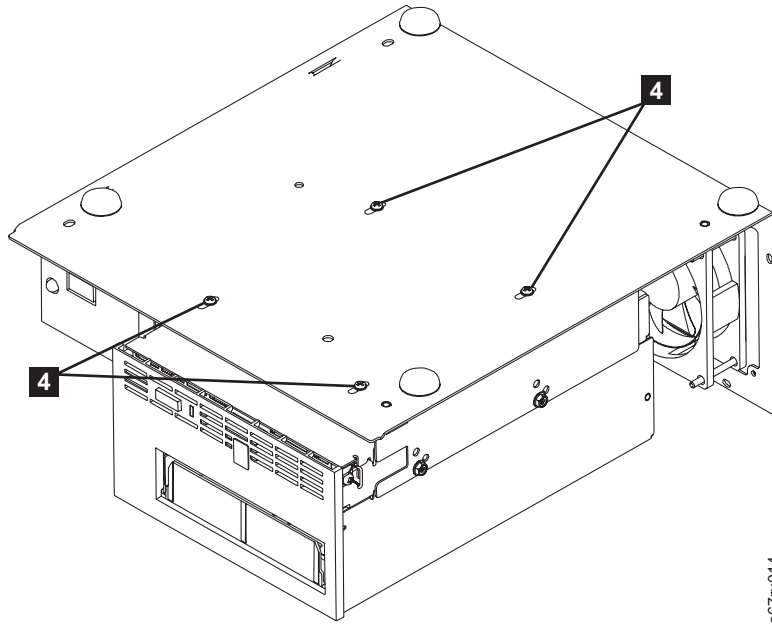

Figure F-4. Removing the screws securing the internal drive
5. Remove the 4 screws (**4** in Figure F-4) securing the internal drive to the chassis.